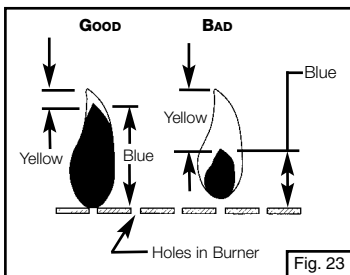

Fig. 23
- A good flame should be blue with minimal yellow tip. Some yellow tips on flames are acceptable as long as no carbon or soot deposits appear (Fig. 23).